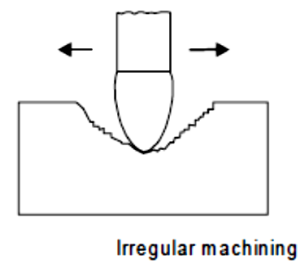

Fig. 23.12 Machining irregular surface on shaper
6. Machining irregular surface (Fig. 23.12)